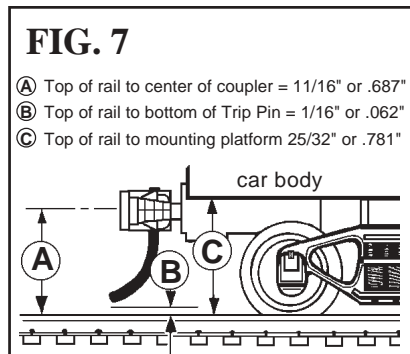

FIG. 7
1. To permit standardization of your rolling stock and interchange of equipment on different model railroads - we recommend mounting couplers at N.M.R.A. standard height, which is .687" or 11/16" from top of rail to centerline of coupler, see Fig. 7.
b. If coupler mounting surface is too high - use a shim of correct thickness to lower coupler to N.M.R.A. height in between coupler and car mounting surface, see Fig. 7 and 8.